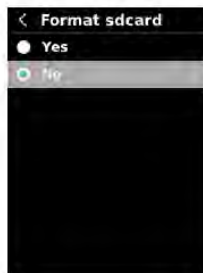

Fig. 25
2. Press the \wedge and \vee buttons to select between "Yes" or "No" (Fig. 25).